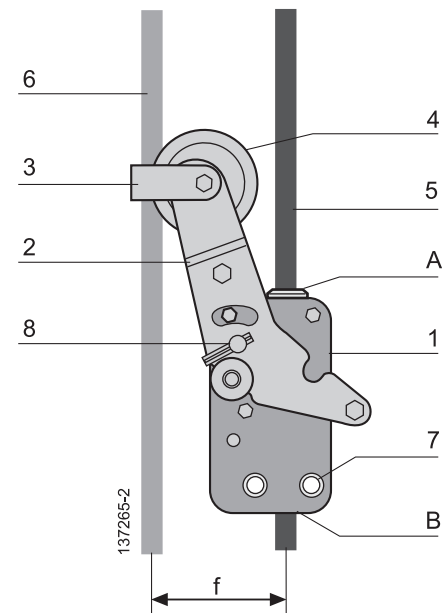

Fig. 2
The BLOCSTOP™ type BSA fall arrest device (fig.2) is formed by a zinc-plated steel housing (item 1, fig. 2) and a zinc-plated steel lever (item 2, fig. 2) with a zinc-plated steel detection roller (item 4, fig. 2) mounted at its end. The fall arrest device is rigidly mounted on the suspended platform by 2 screws + self-locking nuts mounted beforehand in the holes (item 7, fig. 2). The lever (item 2, fig. 2) is rotated to open and close the jaws.
The fall arrest device operates automatically, and depends only on the distance f (see fig.2) between the lifting wire rope (item 6, fig. 2) used to lift the suspended platform and the fall arrest wire rope (item 5, fig. 2) which runs through the unit (item 1, fig. 2).
- when the lifting wire rope (item 6, fig. 2) is tensioned, the lever (item 2, fig. 2) keeps the jaws opened and the fall arrest wire rope (item 5, fig. 2) slides freely in the unit (fig.7),
- when the lifting wire rope (item 6, fig. 2) is slack, the lever (item 2, fig. 2), pushed by its return spring in the housing (item 1, fig. 2) swivels, causing the jaws to clamp on the fall arrest wire rope (item 5, fig. 2). The suspended platform is immediately stopped on the side on which the fall arrest device is installed.
Actuation of the lever (item 2, fig. 2) can be caused by: